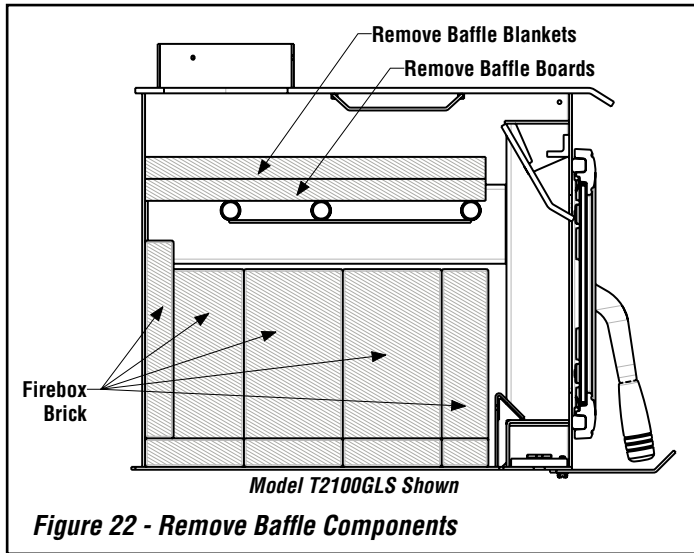

Figure 22 - Remove Baffle Components
Step 1. Carefully remove the baffle blankets and baffle boards (see *Figure 22*).